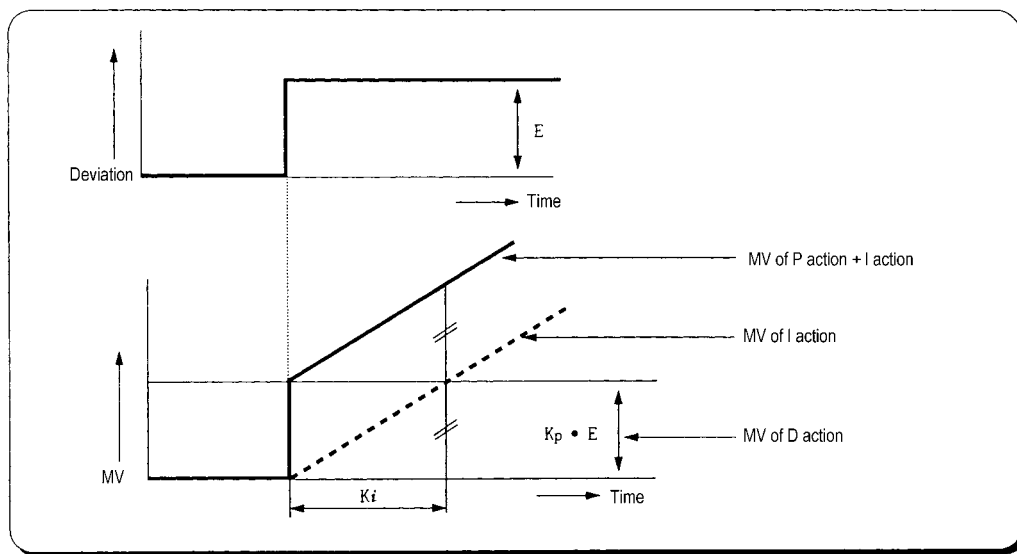

Fig. 7.3 The integral action with constant deviation
- ② Integral action when a constant deviation has occurred is shown as the following Fig. 7.3.